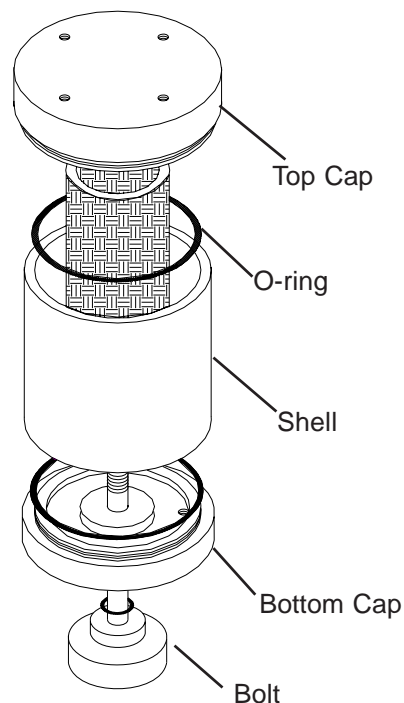

Figure 5
1. Loosen bolt on bottom of filter (see Figure 5).